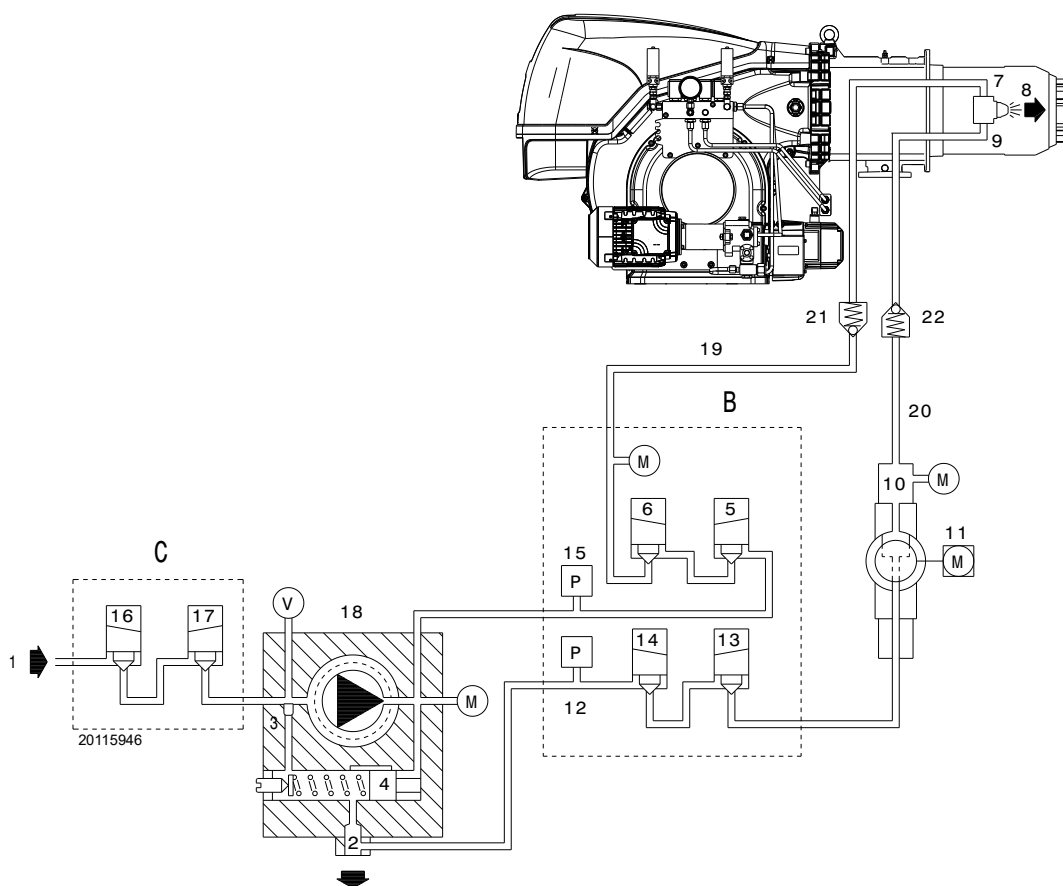

Fig. 38
- The pump 18)(Fig. 38) draws the fuel from the tank through the piping 1) and pumps it under pressure for delivery. The pump pressure governor 4) rises and the fuel returns to the tank through the piping 2). The screw 3) closes the by-pass heading towards suction and the de-energized solenoid valves 5) - 6) close the passage to the nozzle.
#### Key (Fig. 38)